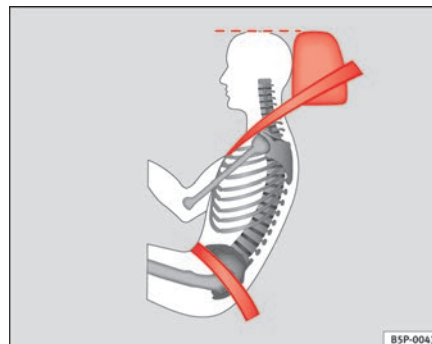

Fig. 13 Correct belt web and head restraint positions, viewed from side ▶
- The lap part of the seat belt must lie across the pelvis, never across the stomach. The seat belt must lie flat and snugly on the pelvis ⇒ page 25, fig. 13. Pull the belt tight if necessary to take up any slack.